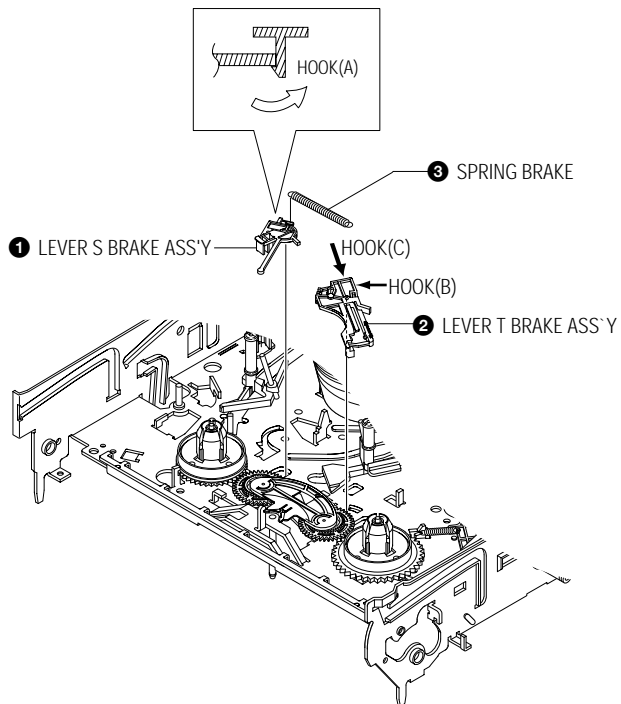

Fig. 2-25 Lever Brake S, T Ass'y Removal
- 1) Remove the Lever Brake S Ass'y (Refer to Fig 2-25).
- 2) Remove the Spring Tension Lever **①**.
- 4) Lift the Lever Tension Ass'y **②** & Band brake Ass'y **③**.
- 1) Release the Hook [A] and the Hook [B], [C] in the direction of arrow as shown in Fig 2-25.
- 2) Lift the Lever S, T Brake Ass'y ❶, ❷ with spring brake ❸.